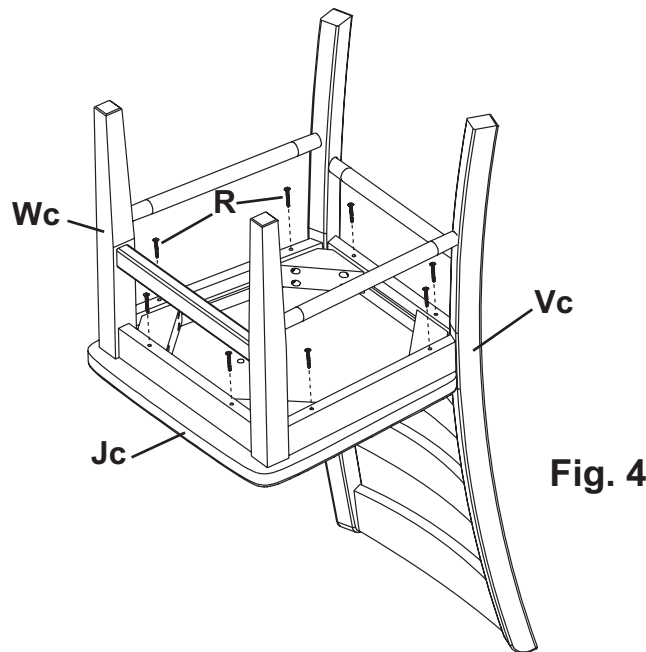

Fig. 4
- Place the Seat (Jc) down on a clean protective surface, with the back of the seat hanging over the edge. Center the frame assembly on the Seat (Jc), making sure the seat remains in contact with the back legs. Fasten in place with #8 x 2-3/4" Black Screws (R) through the holes in the front and side aprons and into the seat. See Figure 4.